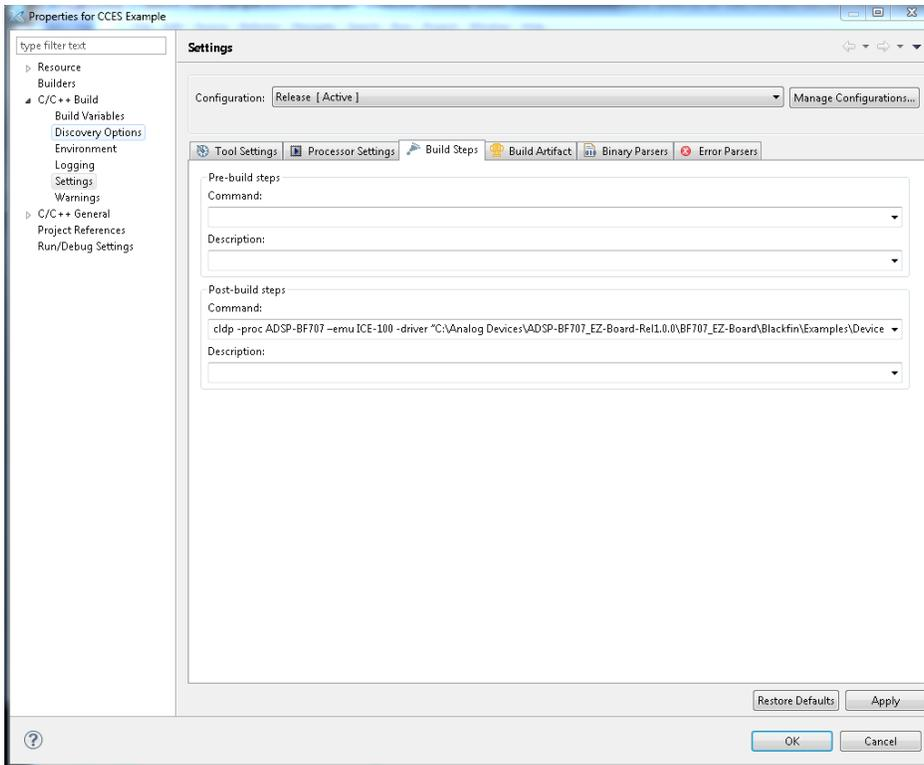

Figure 30. CLDP Command Line in Project Settings Build Steps Window
3. Under the **Post-build steps** section, populate the **Command** field with the command line above, as in Figure 30.